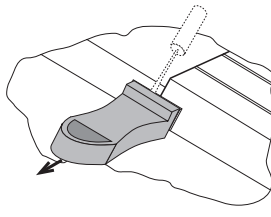

Fig. 2
- Hold the bolt and pull it right out turning it slightly (Fig. 2 and 3). You can use the bolt as a module extractor when exchanging a module.